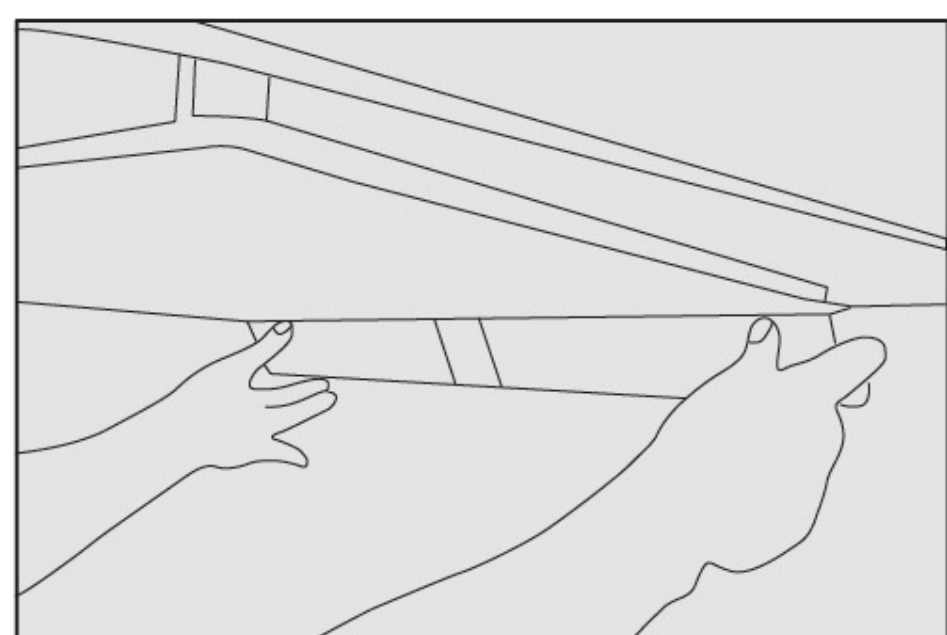

Fig.11
12. Install the oil cup (see Figure 11);